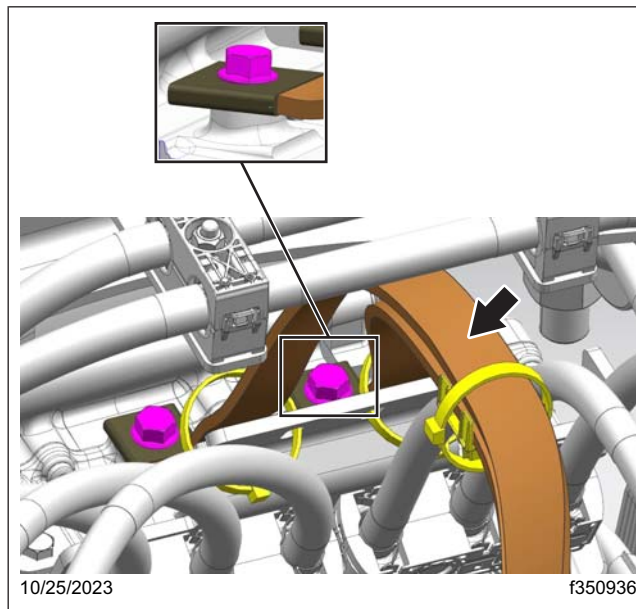

Fig. 3, Flat Grounding Cables Straps
- Disconnect the flat grounding cables straps, shown in **Fig. 3**, from the e-Axle.
60. Connect the flat ground cable straps, shown in **Fig. 3**, (Page 8) to the e-Axle.